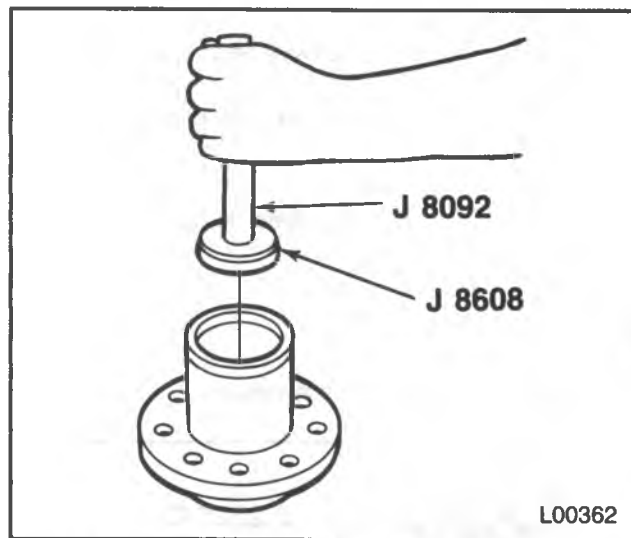

Figure 27 — Installing Outer Bearing Cup
- Outer bearing cup (44 or 59) into the hub (49).
- Drive the cup into the hub using J 8092 and J 8608 (figure 27). **Be sure J 8608 is installed upside down on J 8092 so that the chamfer does not contact the bearing cup.** Drive the cup beyond the retaining ring groove.